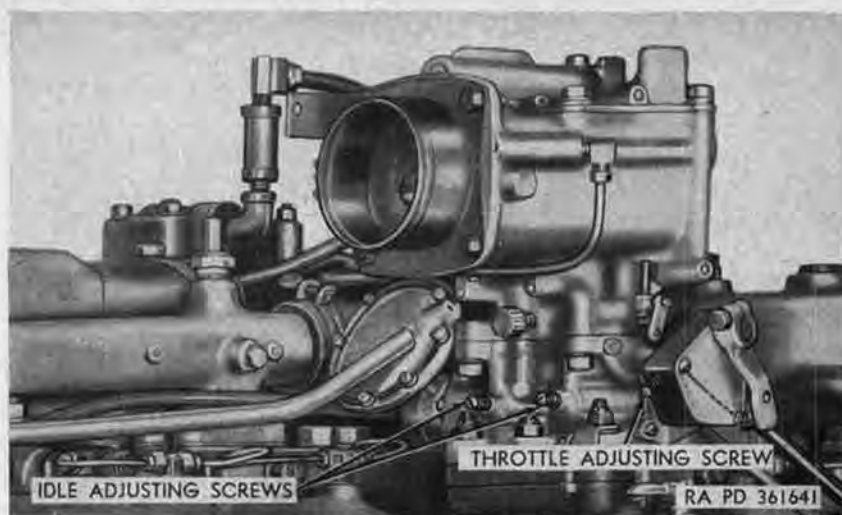

Figure 157. Right rear view of carburetor installed on engine.
- (1) *Throttle adjusting screw adjustment.* The throttle adjusting screw (fig. 157), which controls the degree of throttle
- (c) Turn throttle adjusting screw (fig. 157) (clockwise to increase or counterclockwise to decrease engine idle speed) until the tachometer indicates engine idle speed of 400 rpm.
- (2) *Idle adjusting screw adjustment (with vacuum gage).*
- (b) Adjust throttle adjusting screw ((1) above).
- (c) Turn idle adjusting screws (fig. 157), one at a time, until vacuum gage indicates highest steady manifold vacuum. Turning the idle adjusting screws in (clockwise) provides a leaner idle mixture, and turning the idle adjusting screws out (counterclockwise) provides a richer idle mixture.
- (3) *Idle adjusting screw adjustment (without vacuum gage).*
- (a) Adjust throttle adjusting screw ((1) above).
- (b) Turn one idle adjusting screw (fig. 157) in (clockwise) until engine speed begins to drop; then turn the adjusting screw out (counterclockwise), counting the number of turns, until the engine speed again begins to drop.
- (d) Repeat procedures (b) and (c) above for other idle adjusting screw, being sure that it is set equally with the first screw. Refer to (2)(d)1 above for "caution."
- (e) If idle mixture adjustment ((b), (c), and (d) above) results in an increase in idling speed great enough to require resetting the throttle adjusting screw, the idle adjusting screws must be reset. Refer to (2) (d) 2 above for "caution."